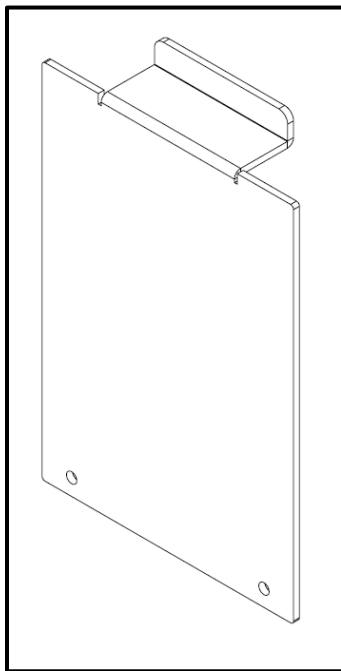

Figure 4b. Blank Panel
3. Any empty Rectifier Module position requires a Blank Panel (see **Figure 4b** on next page) in that position for best thermal performance, to keep debris out, and for safety purposes.